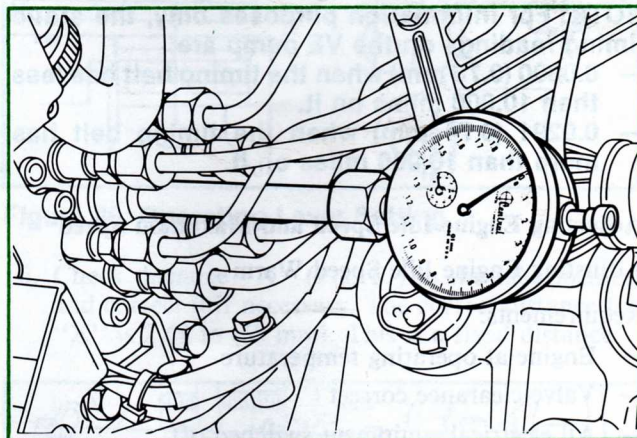

Figure 56. Static Timing Adapter and Dial Indicator
3. Install the adapter D84P-9000-D (Fig. 56) into the injection pump. The plunger portion of the adapter must project into the pump so it can contact the fuel injection pump plunger. Mount the dial indicator into the adapter and make sure that there is at least 0.100 in (0.25 mm) of preload on the dial indicator.